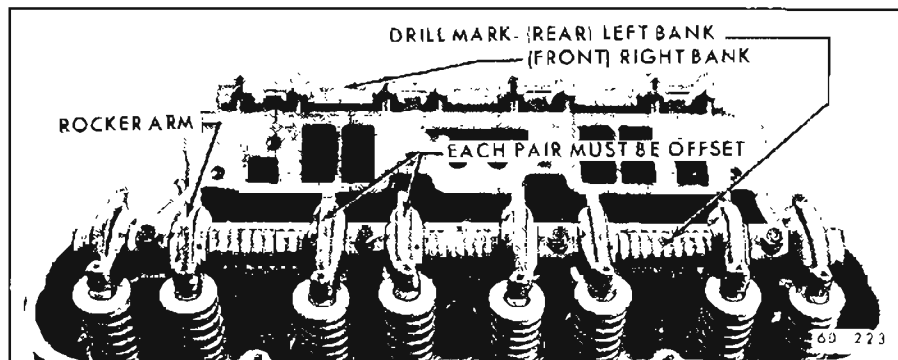

Figure 60-318—Rocker Arms Positioned on Shaft
1. Install rocker arms and springs on shaft. Each set of rocker arms must be offset to each other. See Figure 60-318.